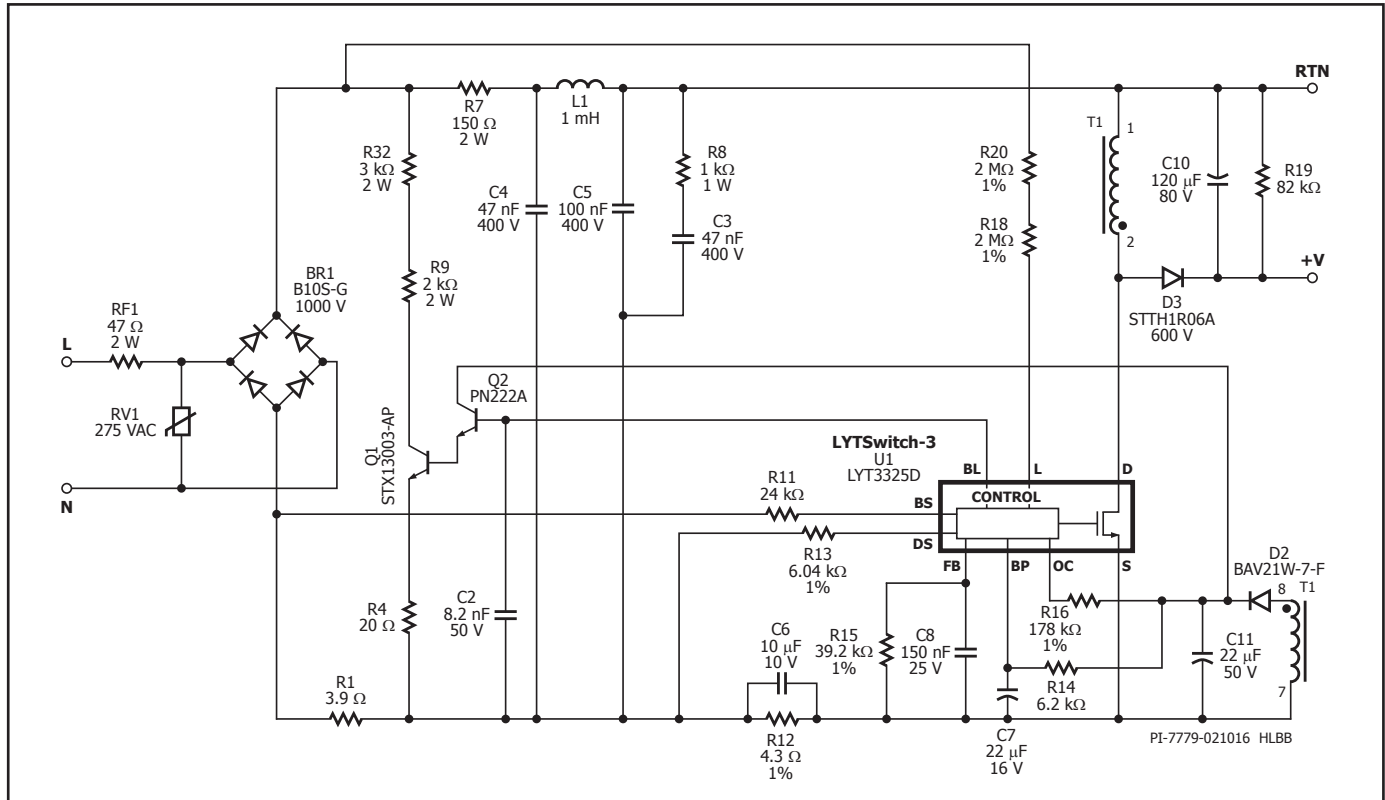

Figure 7. DER-524 8 W, 72 V, 115 mA Non-Isolated Dimmable A19 LED Bulb Driver using LYT3325D.
The circuit shown in Figure 7 is configured as a buck-boost power supply utilizing the LYT3325D from the LYTSwitch-3 family of ICs. This type of LED driver configuration is common for dimmable bulb applications where high dimmer compatibility, accurate regulation, high efficiency, high power factor and low ATHD are required along with low component count for high reliability. The output can drive an LED load from 68 V to 76 V with a constant output current of 115 mA $\pm$ 3% across an input range of 195 VAC to 264 VAC and can operate in maximum ambient temperature of 100 °C with good margin below the thermal foldback protection point. It has an efficiency of greater than 86%, very low ATHD% (less than 20%) and high power factor of greater than 0.9 measured across the input range.
AC input power is rectified by bridge BR1. A 1000 V voltage rating is recommended (the maximum clamp voltage for a typical 275 V varistor is 720 V). The rectified DC is filtered by the input capacitors C4 and C5. Too much capacitance degrades power factor and ATHD, so the values of the input capacitors were adjusted to the minimum values necessary to meet EMI with a suitable margin. Inductor L1, C4 and C5 form a π (pi) filter, which attenuates conducted differential and common mode EMI currents. Optional resistor R10 across L1 damps the Q of the filter inductor to improve filtering without reducing low frequency attenuation. Fuse RF1 in Figure 7 provides protection against catastrophic failures such as short-circuit at the input. For cost reduction, this can be replaced by a fusible resistor (typically a flame proof wire-wound type) which would need to be rated to withstand the instantaneous dissipation induced when charging the input capacitance when first connected to the input line.
Selection of fuse RF1 in Figure 7 type and rating is dependent on input surge requirements. Typical minimum requirement for bulb application is 500 V differential surges. This design meets a 1 kV surge specification, so a 47 Ω fusible resistor in Figure 7 was used. A fast-blow fuse with high ampere energy (I^2t) rating could also be used.
The bias winding voltage is proportional to the output voltage (controlled by the turns-ratio between the bias supply and output-main winding). This allows the output voltage to be monitored without the need for output-side feedback components. Resistor R16 in Figure 7 converts the bias voltage into a current which is fed into the OUTPUT COMPENSATION (OC) pin of U1. The OUTPUT COMPENSATION pin current is also used to detect output overvoltage which is set to 30% above the nominal output voltage. Once the current exceeds the I_{OV} threshold the IC will trigger a latch, which disables switching which prevents the output from rising further. An AC recycle is needed to reset this protection mode once triggered.